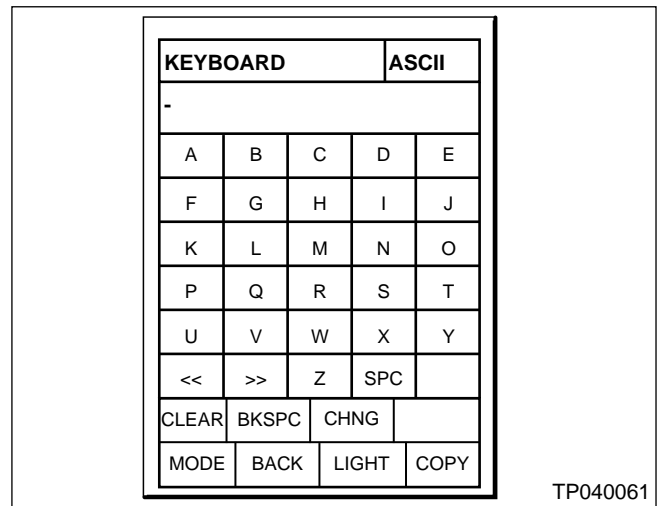

Figure 13
- f. Enter the entire VIN using the keyboard. See Figure 13.